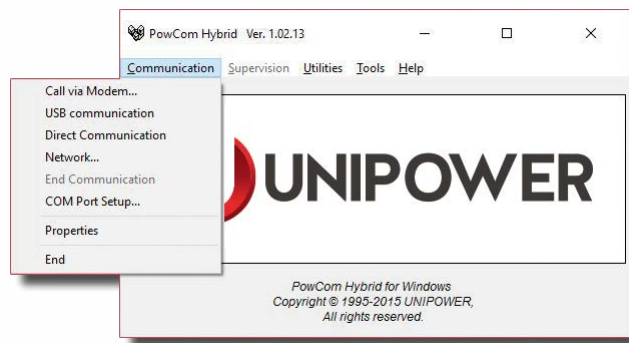

Figure 6-2 Communication
4. Choose *Communication* from the PowCom™ Hybrid software menu, and select *USB Communication*, see Figure 6-2. If present, the controller will be connected automatically through the USB interface.